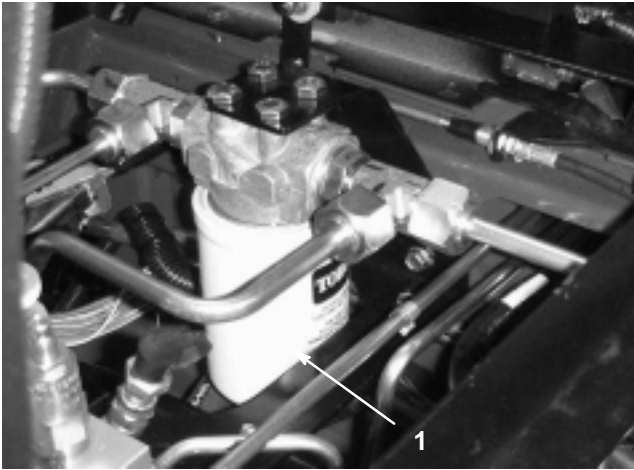

Figure 37
- Clean the area around the filter mounting area. Place a drain pan under the filter and remove the filter (Fig. 37 & 38).